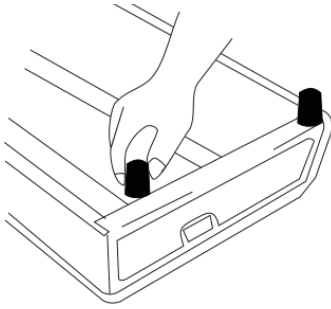

Fig 12.
4. Attach the rubber legs to the cooker by turning the cooker upside down and screwing them into the openings on the cooker bottom.(Fig. 12)